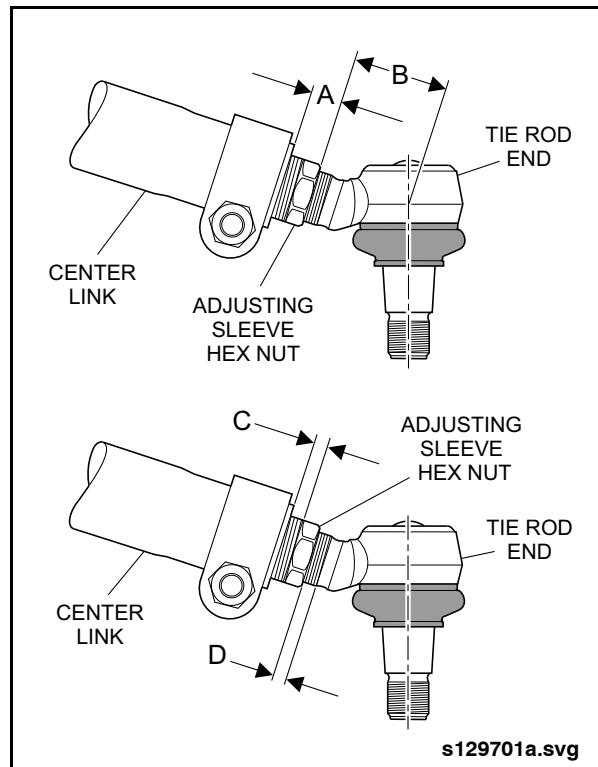

Fig. 1-19: Tie Rod End Adjustment
1. Thread adjusting sleeve into center link until the end of the hex head on the sleeve is 0.708 ± 0.275 in. (18 ± 7 mm) from the end of the center link. Refer to dimension "A". See "Fig. 1-19: Tie Rod End Adjustment" on page 20.